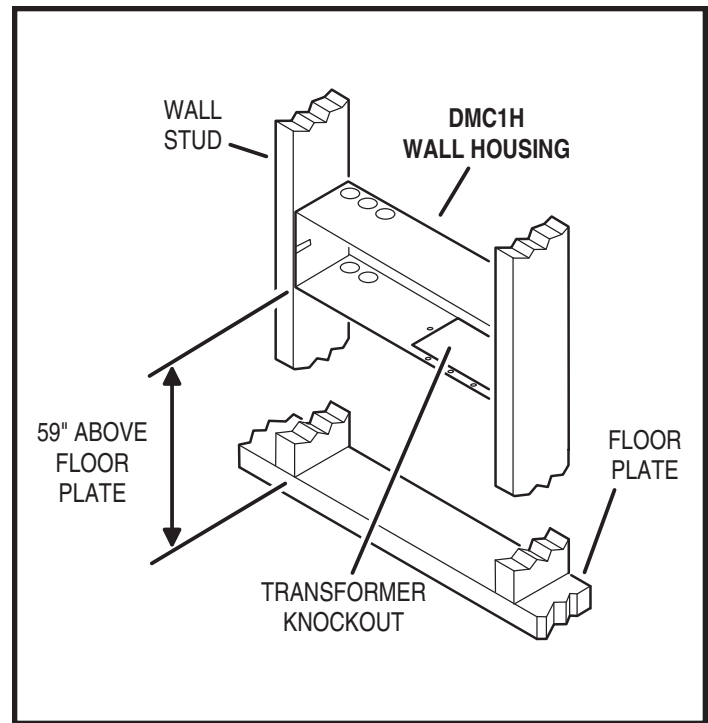

Figure 2. DMC1H Wall Housing Installation
2. Position the back side of the wall housing flush with the back of the 2 x 4 studs with the bottom edge approximately **59"** above the floor. Be sure the rectangular transformer mounting knockout is on the bottom of the wall housing (see Figure 2).